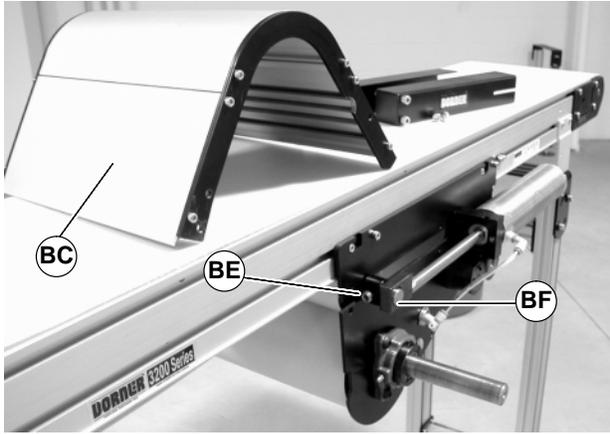

Figure 81
4. Loosen tensioning roller set screws (BE of Figure 81) on one side of center drive.